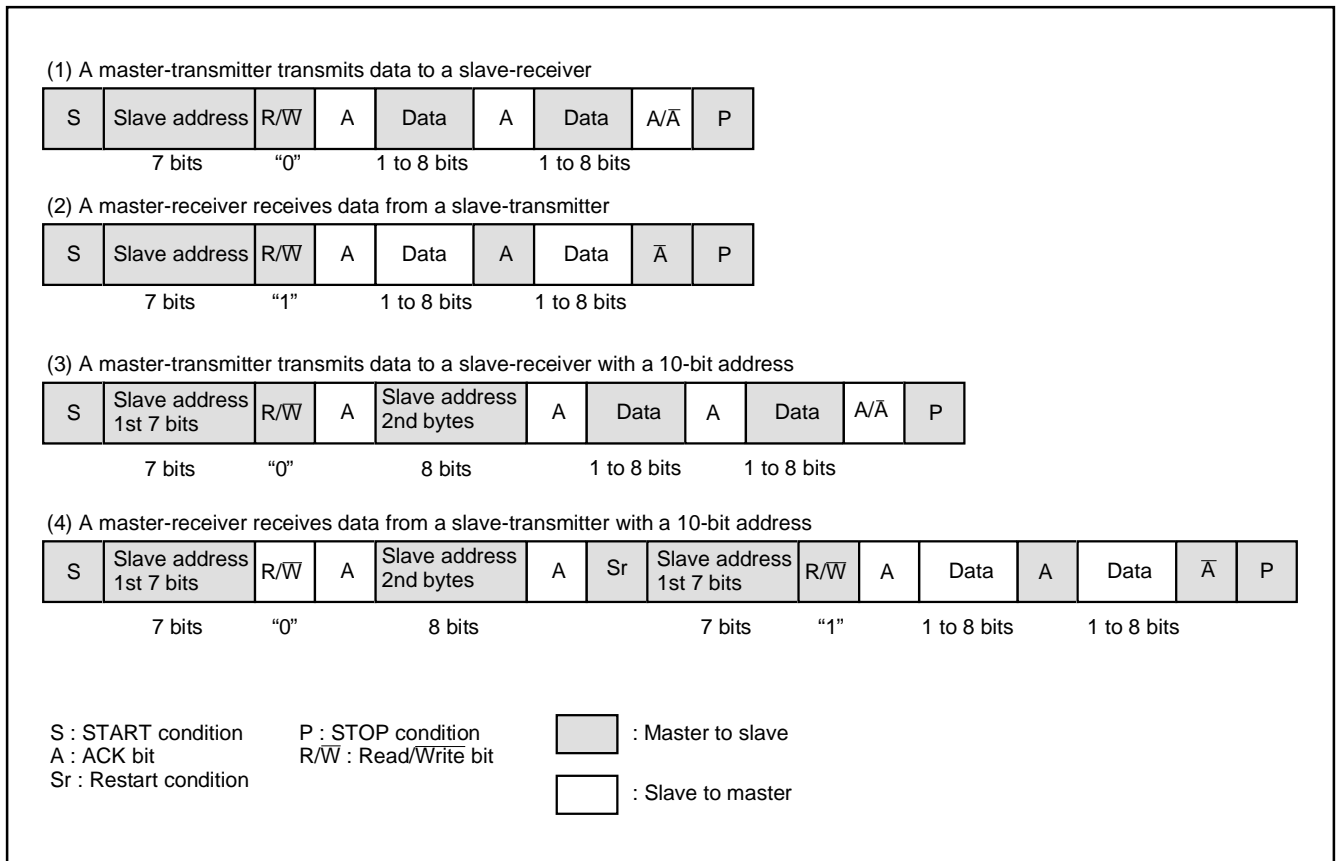

Fig. 77 Address data communication format
① 7-bit addressing format
To adapt the 7-bit addressing format, set the 10BIT SAD bit of the I2C control register (S1D: address 001416) to "0". The first 7-bit address data transmitted from the master is compared with the high-order 7-bit slave address stored in the I2C slave address register. At the time of this comparison, address comparison of the RWB bit of the I2C slave address register is not performed. For the data transmission format when the 7-bit addressing format is selected, refer to Figure 77, (1) and (2).
② 10-bit addressing format
parison, an address comparison between the RWB bit of the I2C slave address register and the  $R/\bar{W}$  bit which is the last bit of the address data transmitted from the master is made. In the 10-bit addressing mode, the RWB bit which is the last bit of the address data not only specifies the direction of communication for control data, but also is processed as an address data bit. When the first-byte address data agree with the slave address, the AAS bit of the I2C status register (S1: address 001316) is set to "1." After the second-byte address data is stored into the I2C data shift register (S0: address 001116), perform an address comparison between the second-byte data and the slave address by software. When the address data of the 2 bytes agree with the slave address, set the RWB bit of the I2C slave address register to "1" by software. This processing can make the 7-bit slave address and  $R/\bar{W}$  data agree, which are received after a RESTART condition is detected, with the value of the I2C slave address register. For the data transmission format when the 10-bit addressing format is selected, refer to Figure 77, (3) and (4).